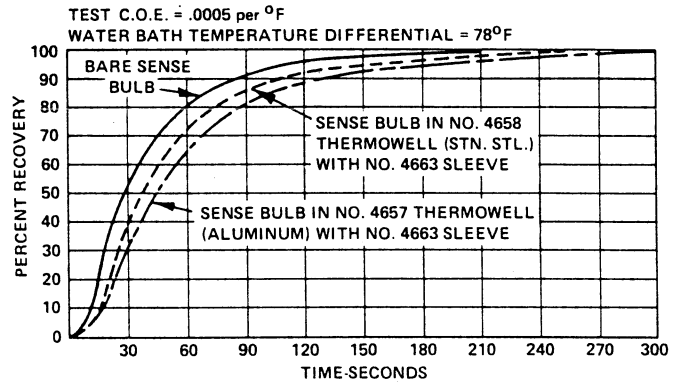

Figure 1-2 Typical Response Time to Product Temperature Change
**Response Time:** Refer to Figure 1-2.